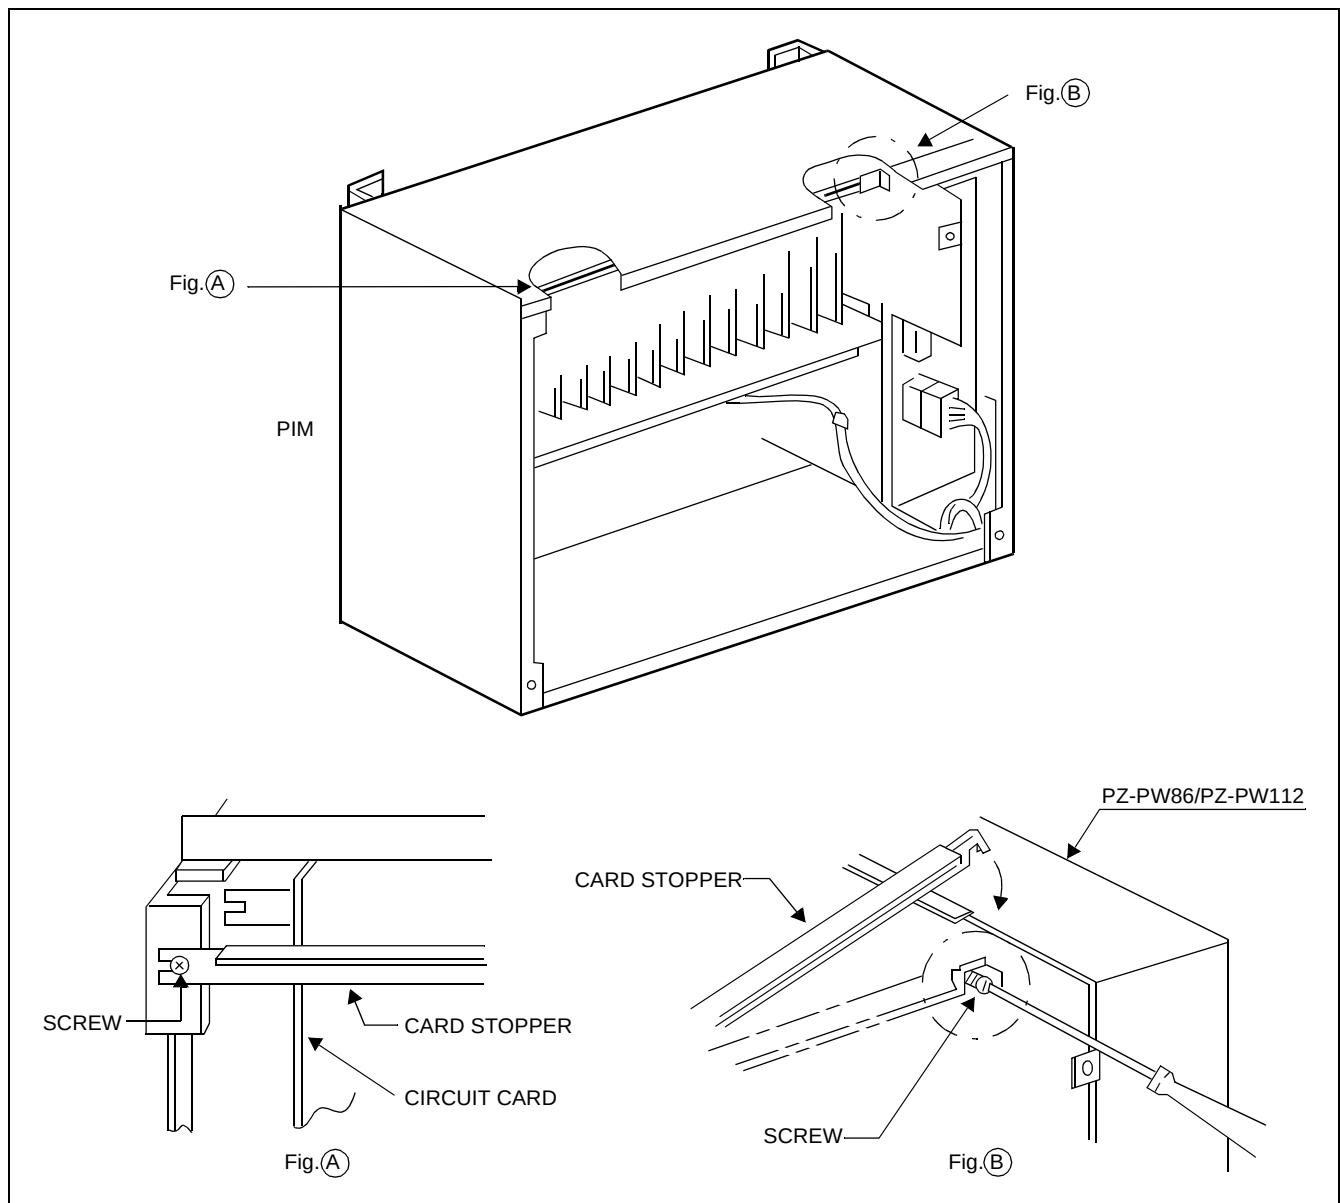

Figure 009-3 Installing Card Stopper
- (5) Install the Card Stopper according to the following procedure:
- Insert the left side of the Card Stopper to the slot for the Card Stopper as shown in Fig.(A) of Figure 009-3.
- Loosen the attached screw for the Card Stopper, and hang the right side of the Card Stopper onto the screw. Then, tighten the screw as shown in Fig.(B) of Figure 009-3.